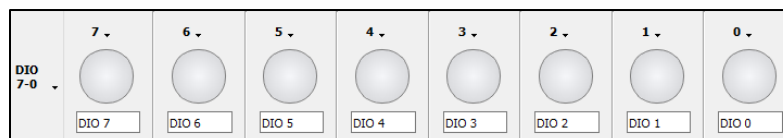

Figure 4: LEDs
**LEDs:** Open up the Static I/O, select DIO 7-0, Bit IO, and LEDs as seen in Figure 4. Select View, Show Name. It is a good habit to always name your LEDs, Switches, and Buttons. These digital